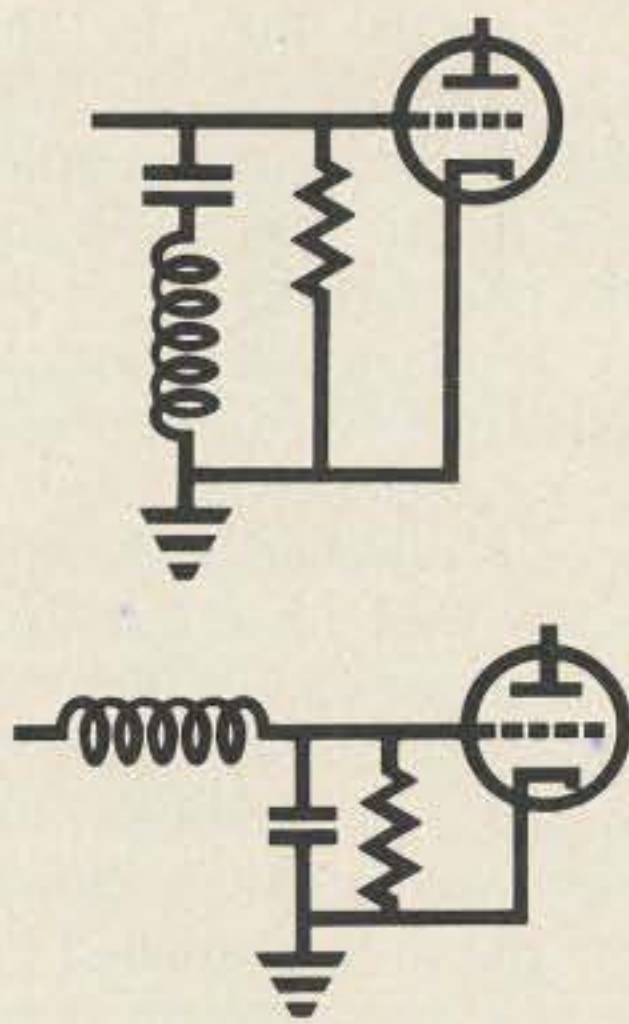
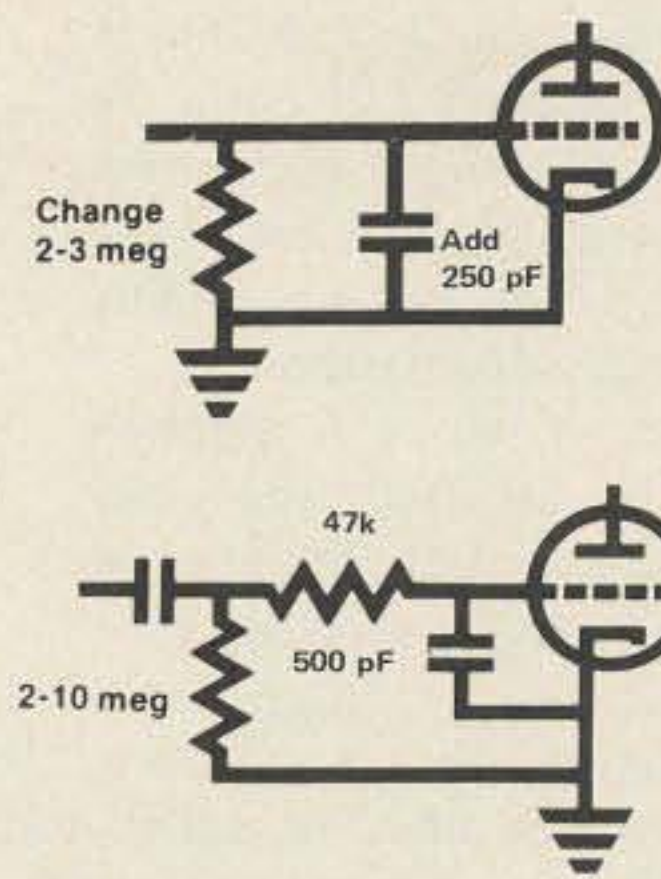

Fig. 16. A combination RC filter is shown in Fig. 17 with the recommended values.
Fig. 17.
4. Capacitors, rf chokes, and resistors can be used in combinations to make filters to eliminate the interference. For circuits such as those shown in Fig. 16, use a choke of 2 to 6 microhenrys and a capacitor of about 10 picofarads. A combination rf filter is shown in Fig. 17 with the recommended values.